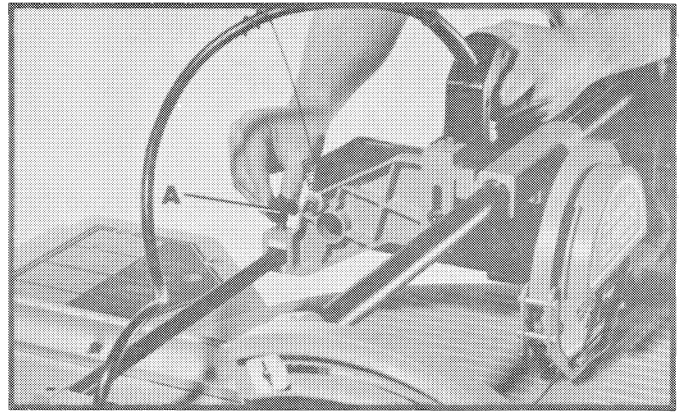

Fig. 29
A cuttinghead lock knob (A) Fig. 29, is provided to lock the cuttinghead to the rails when the saw is not in use or when the saw is being transported. When operating the saw, the cuttinghead lock knob (A) should be loosened only enough to permit the cuttinghead to slide freely on the rails. **NOTE:** Excessive loosening of the cuttinghead lock knob (A) may affect cutting accuracy.